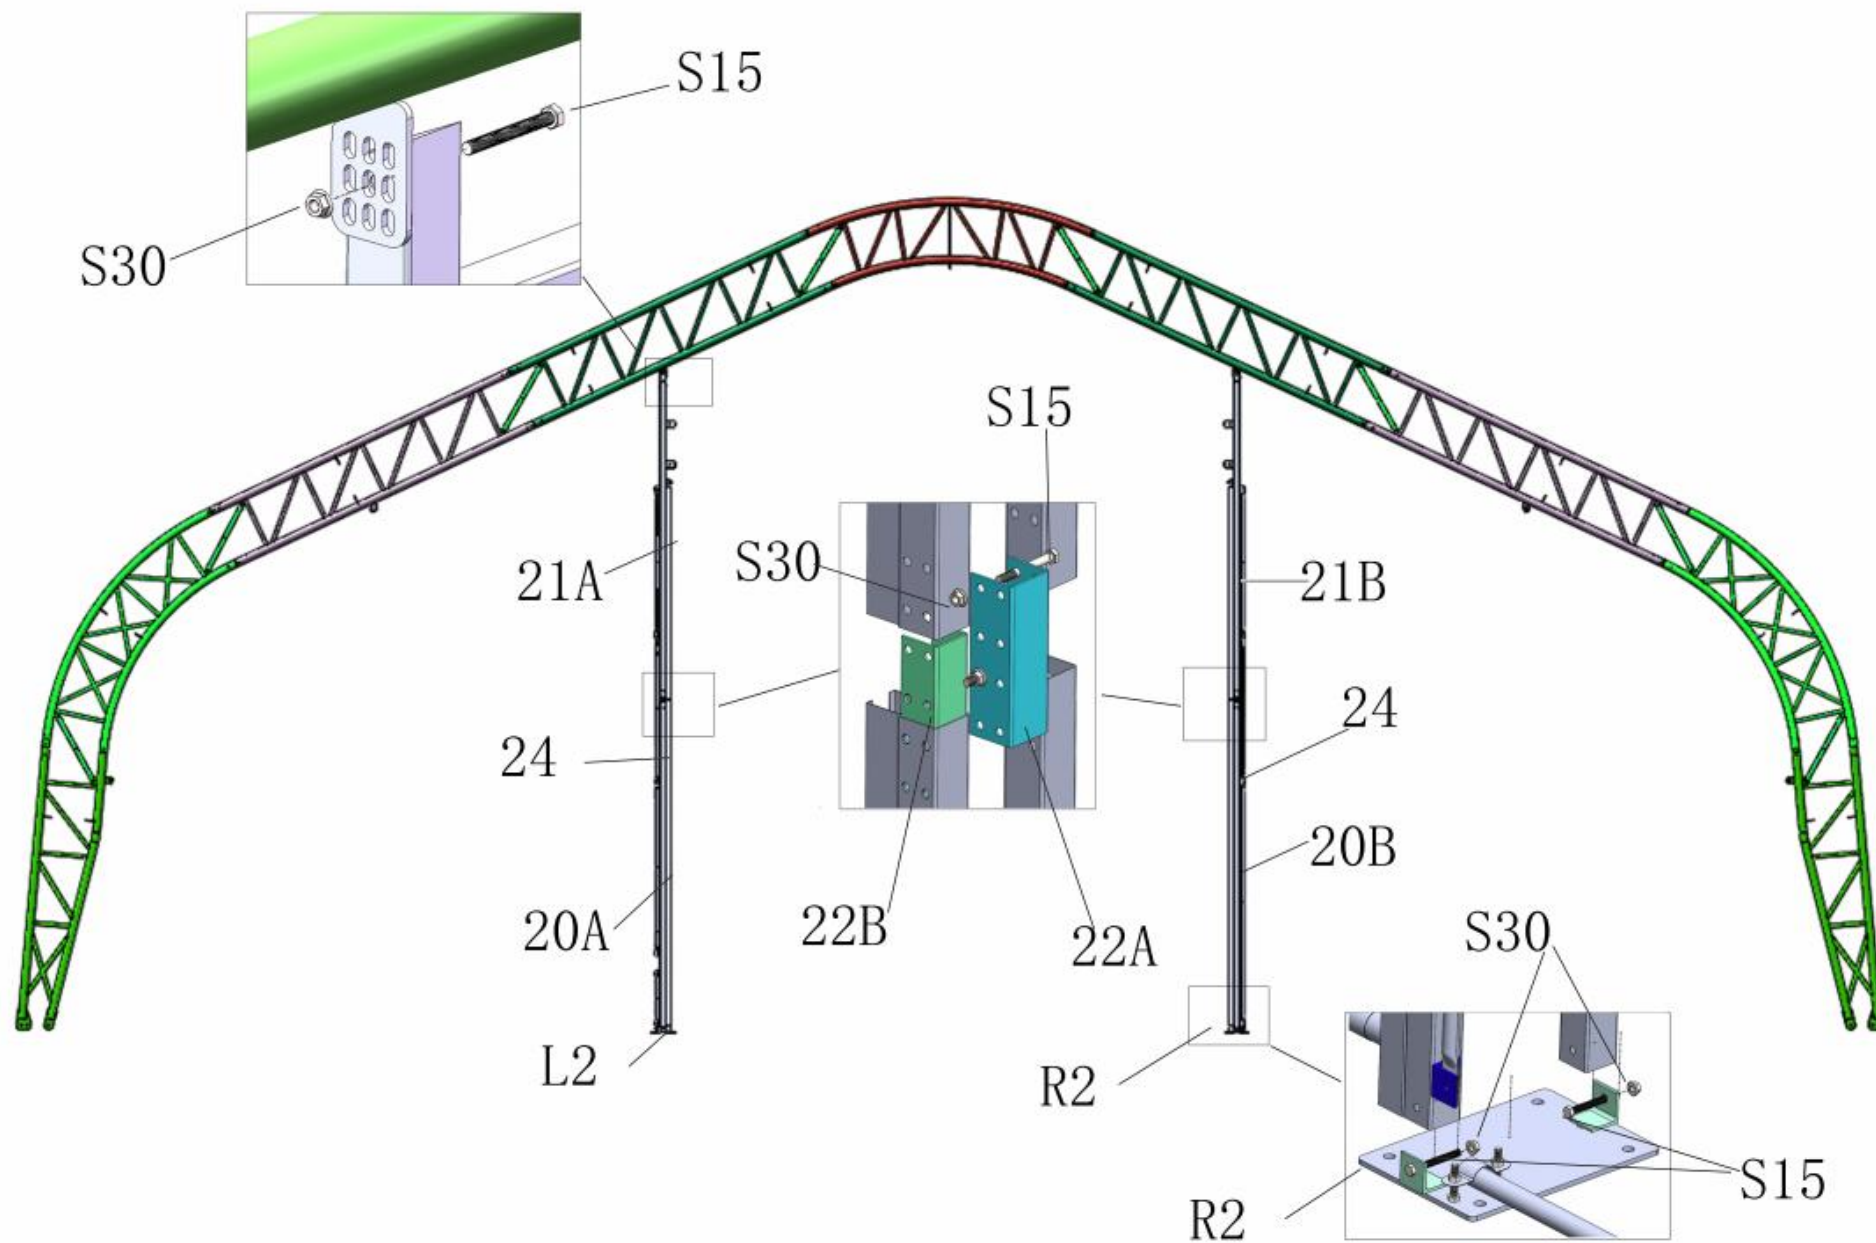

Figure 6
1. Find the relative components and assemble the front and back door accordingly(Figure 6,7,8)